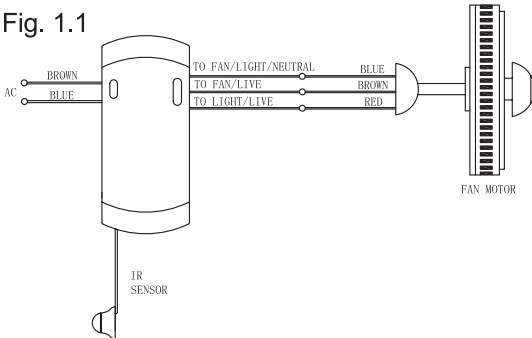

Fig. 1.2
4. Once the connection has been made, the receiver inserts into the drop rod hanging bracket. The canopy comes up to cover the receiver and bracket.(Fig. 1.2)